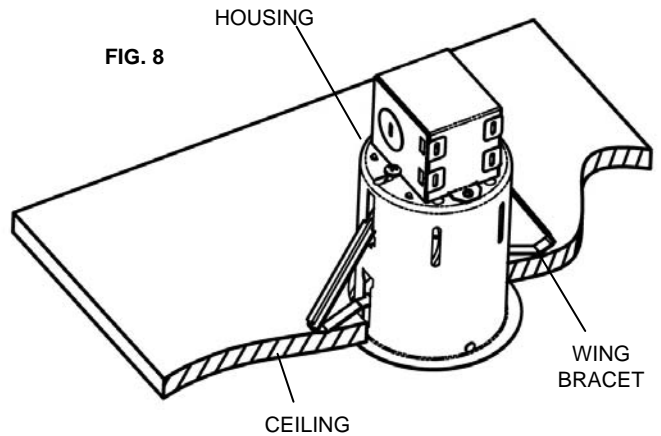

FIG. 8
4. Once the housing is completely inserted into the hole, the wings will spread open and push down against the ceiling surface, as shown in Fig. 8.